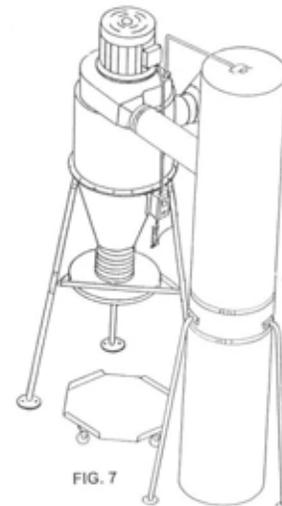

FIG. 7
7. Mount the filter bag by using the belt clamp. Connect the hose with drum inlet cover with 2 8" hose clamps. Finally, this two-stage dust collector is complete. (Fig 7)